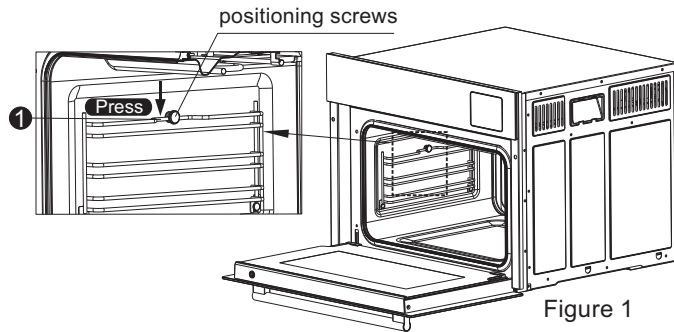

Figure 1
6.Dismantle and install the shelf (the left and right ① shelves are in the same way): press the position of the shelf (fig. 1) until the shelf leaves the set screw, and press the arrow (fig. 4) to take it out upward to remove it. Reinstall the shelf, press (Figure 2) to insert the alignment screws 1 and 2 at the lower end of the shelf, and then snap the upper end of the shelf into the set screws.